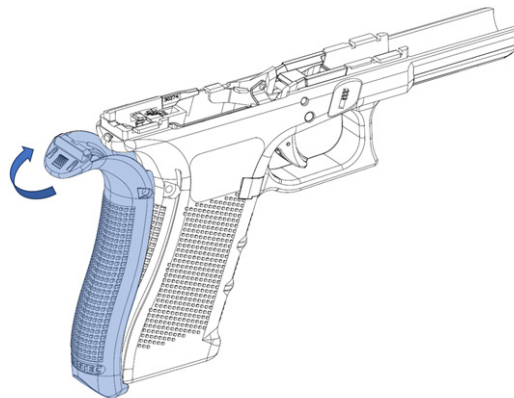

Figure 54: Push-in direction for mounting the backstrap onto the frame.
2. Ensure the movable part of the backstrap is fully inserted and press the backstrap in against the frame. (Figure 54).